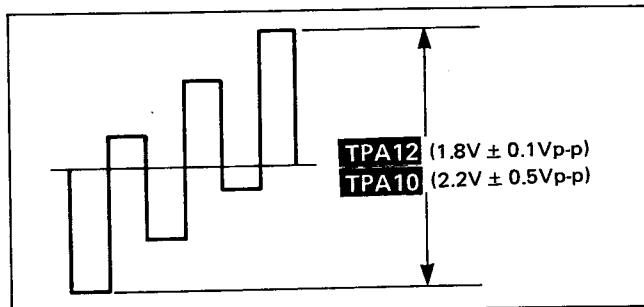

Fig. 30
- 3) Connect an oscilloscope between TPA12 (B-Output) and chassis GND. When adjust Sub colour VR (R629) to achieve $1.8V \pm 0.1V_{p-p}$ on the oscilloscope as shown in Fig. 30